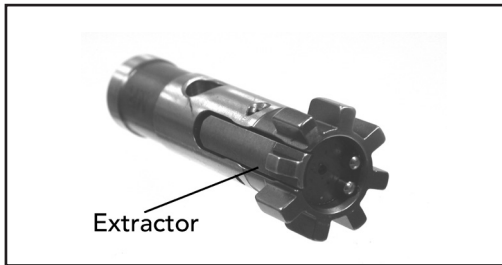

Fig. 45 – Bolt Head
g. Further disassembly of the bolt head, including removal of the extractor is not recommended (Fig. 45).